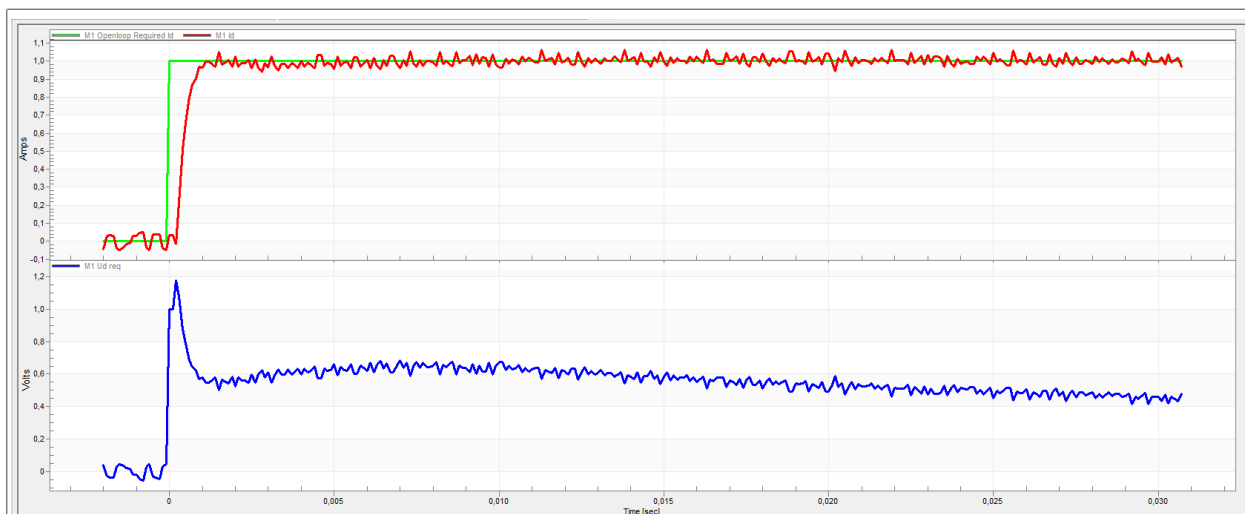

Figure 25. Optimal step response of the Id current controller
- The loop bandwidth (300 Hz) is optimal and the response time of the Id current is sufficient (Figure 25).